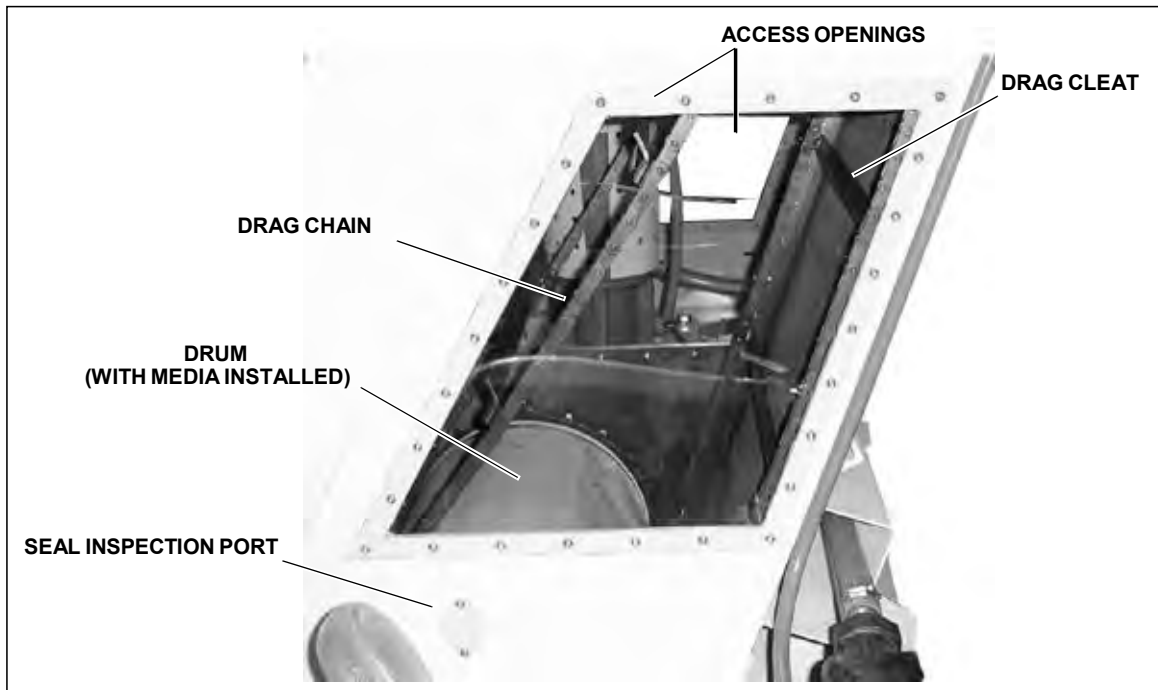

Figure 24. Access Opening
2. Remove the covers from the access openings: inspection window (Plexiglas) and access cover (metal). These openings provide access to the Drum Assembly. Figure 24.
3. Insert the media through one of the access openings (Figure 24) and thread it around the drum. An optional method of installing the media around the drum is to temporarily secure one end of the media to the closure plate and manually rotate the drum until the media is wrapped around the drum. It is not necessary to loosen or remove the drag chain for this procedure.